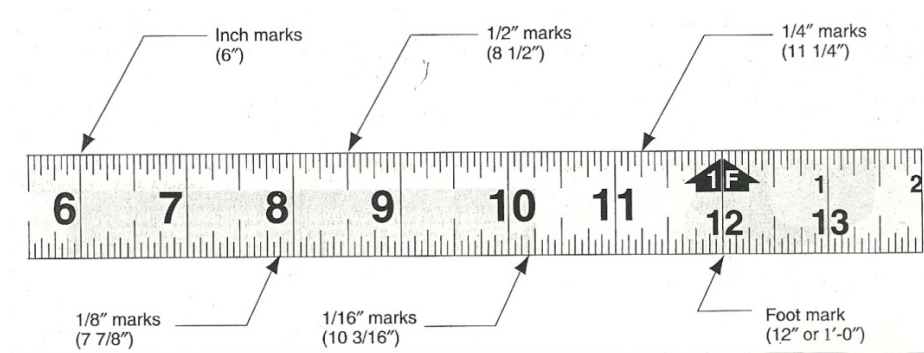

Figure II.1. Measuring Tape
**II.1. Fractional rule** – This rule is divided into 16ths. See Figure II.1. In this figure, the inch is divided into 16 parts. Thus, each small division is 1/16th of an inch.